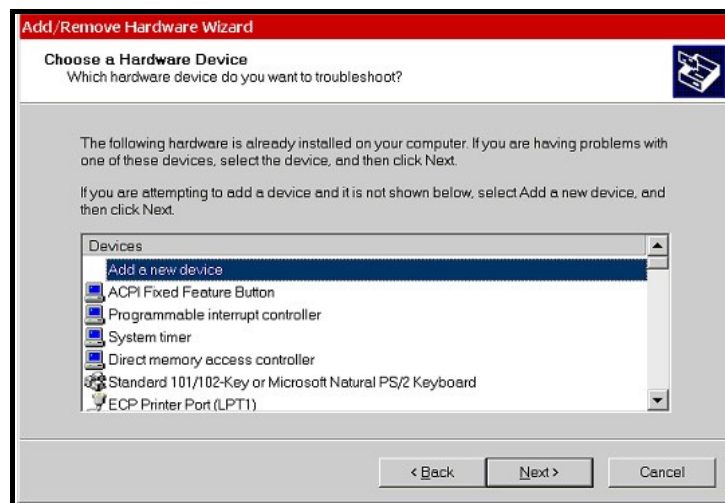

Figure 49: Choose a Hardware Device Screen
5. When the search finishes, you will see the dialog screen as in Figure 49. Choose "Add a new device," and click Next.